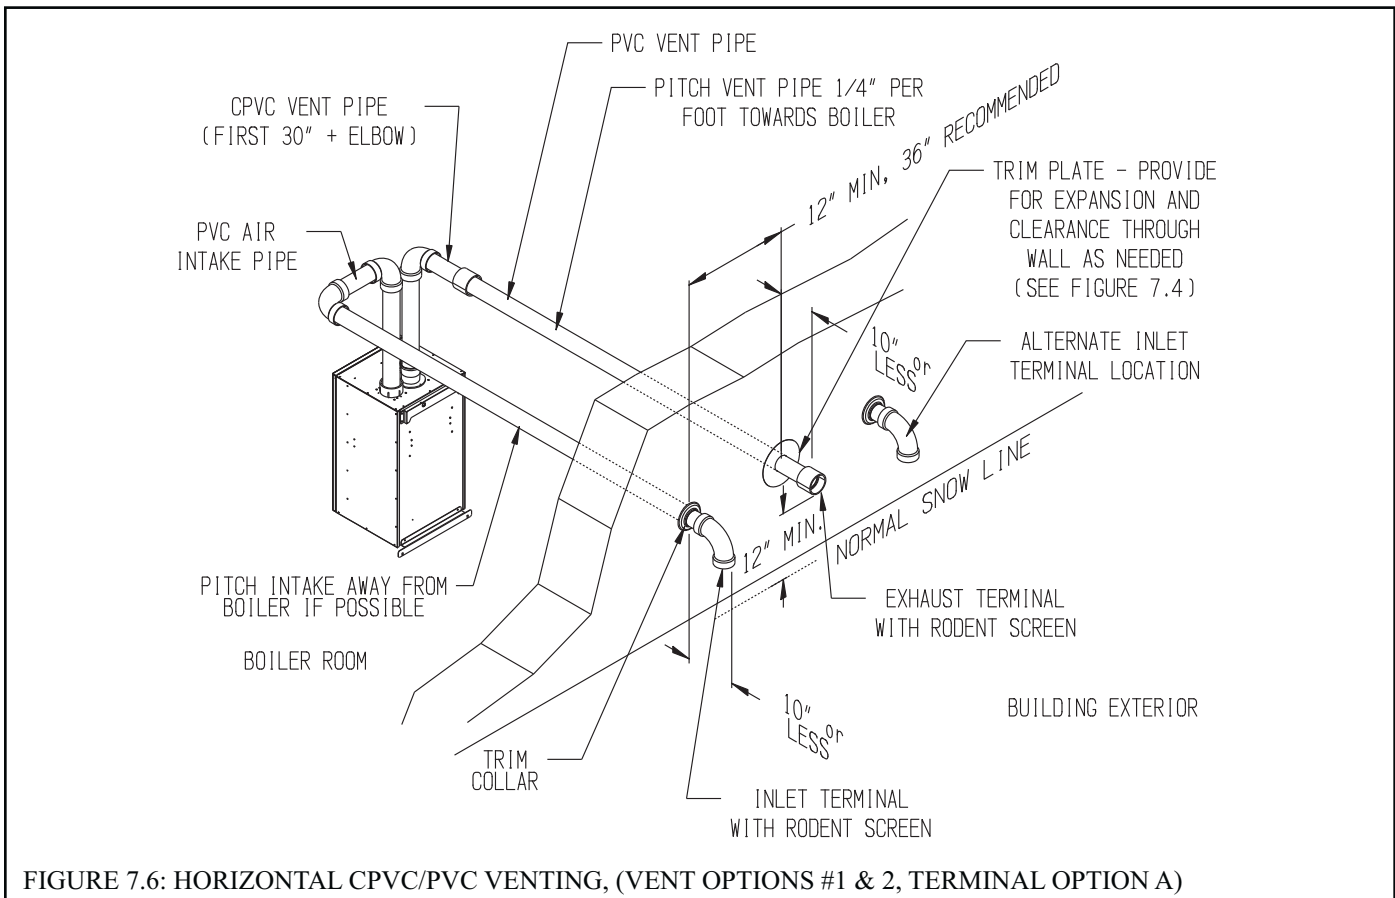

FIGURE 7.6: HORIZONTAL CPVC/PVC VENTING, (VENT OPTIONS #1 & 2, TERMINAL OPTION A)
Table 7.5 summarizes all horizontal twin pipe vent options. Illustrations of horizontal twin pipe vent systems are shown in Figures 7.6 – 7.10. In addition to the requirements in Part VII-A, observe the following design requirements:
**Terminal Option A: Fittings (Acceptable for Vent Options 1-8)** – Vent terminates in a plain end (coupling for PVC, bell end for Polypro, Polyflue and plain end pipe for InnoFlue). Intake terminates in a PVC 90 sweep elbow pointing down. Outer edge of both terminals must be within 10” of the wall surface (Figures 7.6, 7.9). The section of DuraVent Polypro, Centrotherm InnoFlue or Selkirk Polyflue exposed to the outdoors must be UV resistant.